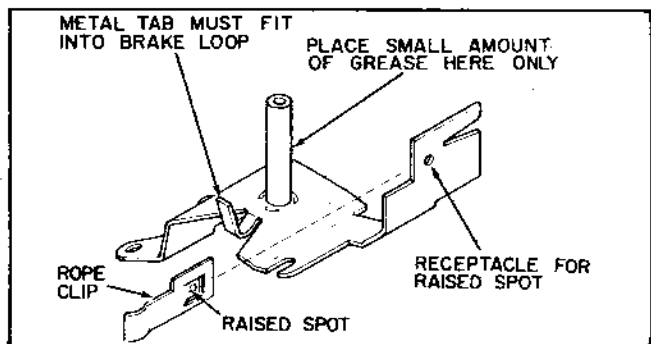
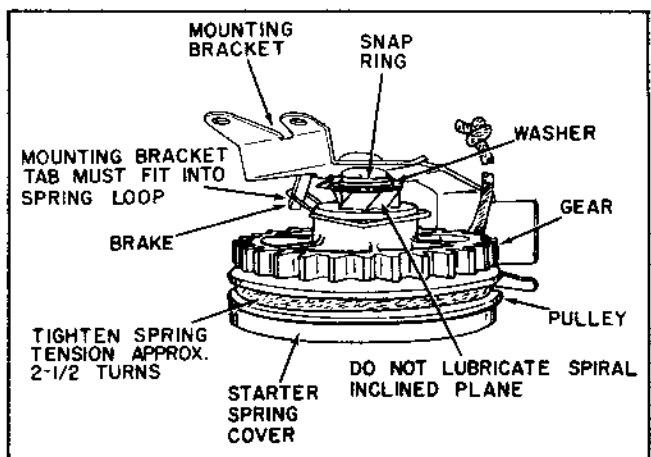

Figure 1-17
Figure 1-18
- (4) Do not lubricate the exposed spiral inclined plane or brake spring groove as dirt will cling to these points and cause premature wear. Figure 1-18. Insert mounting bracket tab into loop of brake spring or starter gear will not engage. Figure 1-17 and 1-18.
U. SIDE STARTER MOUNTING - When mounting starter, adjust STARTER gear tooth head so that it is located no closer than 1/16" from the base of the FLYWHEEL gear tooth. The mounting brackets mounting holes are elongated to allow for this adjustment. See Figure 1-18 and 1-19.